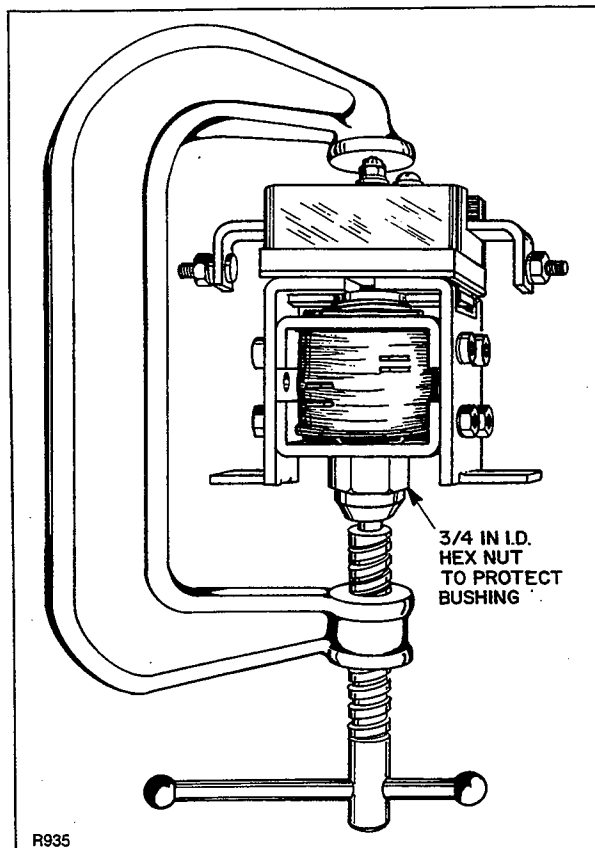

Figure 3-22. Coil and End Frame Reassembly
4. Position the coil (3) onto the brass tube of the end frame and core assembly (1) in the same orientation as the original coil with regard to terminal location and mounting screw direction, making sure the O-ring (2) is in place.
5. Slide end frame assembly with coil into the contactor side frame assembly (4) making sure the movable core assembly (9) enters the tube assembly freely, to prevent damage to the teflon tube bearing.
6. Place two 3/4-inch inside diameter nuts or equivalent over end of core as shown in figure 3-22. Then, using a C-clamp, press the end frame and core assembly (1) into position so that no movement of the coil can occur.
7. Fasten the end frame and core assembly to the side frame using four screws (5) and lock washers (6).